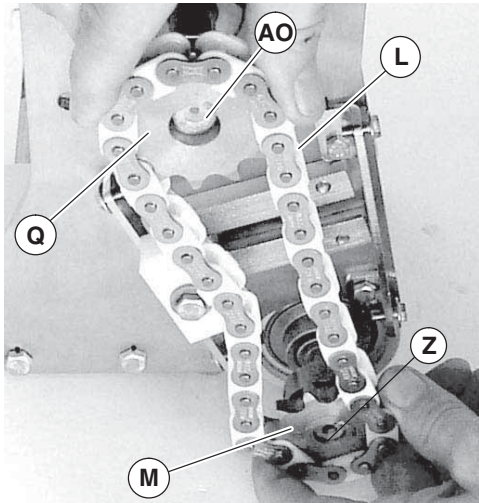

Figure 31
Make sure sprocket keys are installed on conveyor input shaft (Figure 31, item Z) and gear reducer output shaft (AO).
- Install timing chain (L) over sprockets (M and Q). Install timing chain and sprockets on conveyor input shaft (Z) and gear reducer output shaft (AO). Do not tighten sprocket set screws.